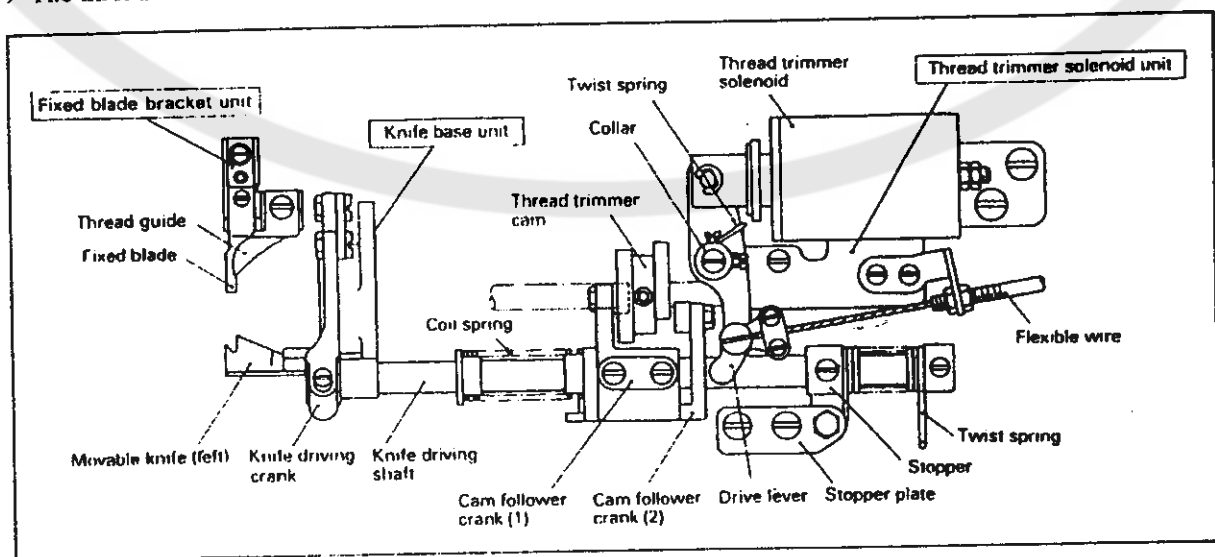

Fig.34
- 1) The thread trimmer mechanism illustrated as Fig.34.